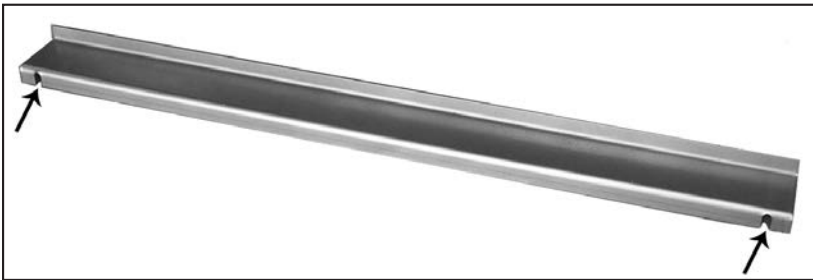

Figure 67: Brick panel bracket, slots shown.
1. Remove the two (2) screws from the rear of the baffle, use a ¼" socket or a flat head screwdriver. Place the provided brick bracket (Figure 67) at the rear of the baffle with the slots over the screw holes (see Figure 67). Insert two (2) of the provided screws into the two (2) holes along the bottom of the baffle.